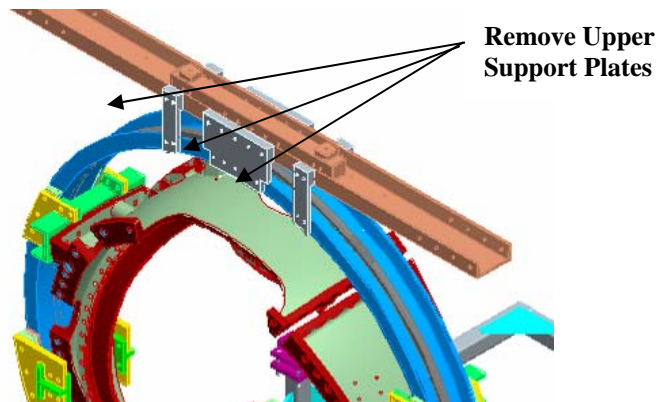
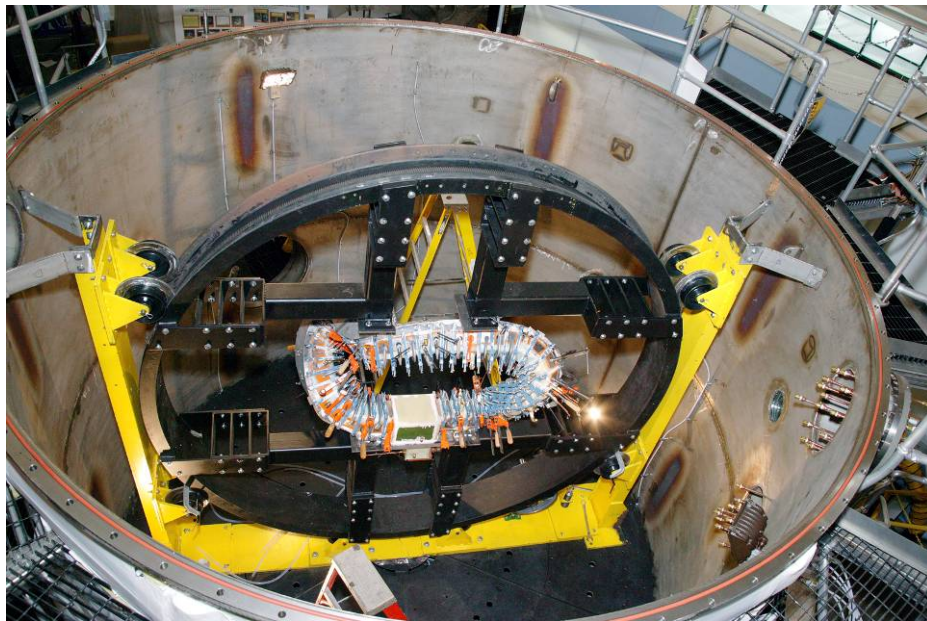

Figure 1- Upper Support Plates
Figure 2- Coil/Ring Assy in Autoclave
- Using a pneumatic impact wrench, install the upper support plates that secure the support ring to the support/lift beam. This operation must be verified prior to proceeding. See Figure 1- Upper Support Plates
- Using a pneumatic impact wrench remove the upper support plates between the support-ring and lift beam. [Figure 1- Upper Support Plates] This operation must be verified prior to operating turning fixture. Once removed, using the crane transport the lifting beam from the autoclave and store the unit on facility floor. [Figure 2- Coil/Ring Assy in Autoclave]